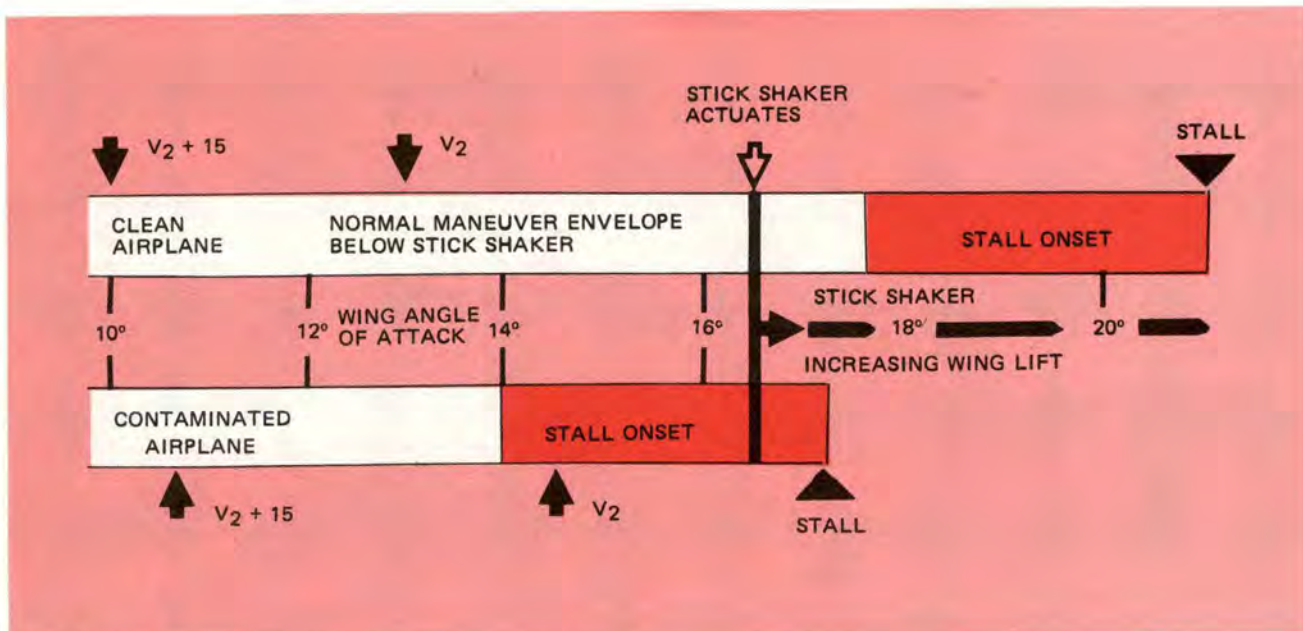
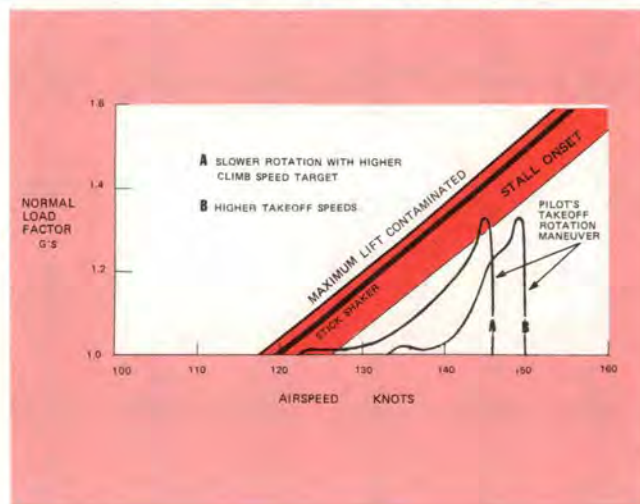

Figure 9
Figure 12
typically consists of four distinct events. Usually, the first sign of an impending stall on a modern jet transport is the activation of an artificial warning device as shown in Figure 9. All Boeing aircraft use an electrically actuated column shaker for this artificial stall warning to alert the pilot before "STALL ONSET" flight characteristics are encountered. Activation of this stall warning stick shaker is based on a preset angle of attack. Second, as the airspeed is further reduced (and angle of attack is increased) toward stall, the airflow cannot remain attached over the entire wing and will begin to momentarily separate near the wing trailing edge. A buffeting, or mild shaking of the aircraft, results as the lift force on the aircraft begins to fluctuate. The buffet intensity will increase as the airspeed is decreased further (and angle of attack is increased) and the areas of separated flow expand. Third, as the stall progresses, and the separated flow region further expands, the center of lift moves forward, requiring less control force from the pilot to continue raising the nose and decreasing the airspeed. This pitch activity, which indicates "STALL ONSET," is typically referred to as reduced pitch stability or stick-force lightning by flight test pilots. A fourth characteristic of "STALL ONSET" is a noticeable increase in roll activity and a corresponding increase in the lateral control action required by the pilot to maintain wings level. Initially, this roll activity and the associated lateral control action are caused by asymmetries in the fluctuating separation patterns on each wing. However, as the "STALL ONSET" progression continues, the lateral control action required to keep the wings level increases as the separated flow regions expand to include the ailerons and spoilers, causing them to be less effective. The Federal Air Regulations require that all certified airplanes have sufficient pitch and roll control capability to recover at any
When the wing is contaminated, the "STALL ONSET" buffet, pitch, and roll activity flight characteristics are similar to a clean wing. However, these "STALL ONSET" flight characteristics may now occur within the clean airplane's normal maneuvering envelope, before stick shaker activation, as is shown in Figure 9. This is a result of the early flow separation caused by contamination. Consequently, the stick shaker may not provide warning of "STALL ONSET" flight characteristics for the contaminated airplane. Of course, the details of the contaminated wing "STALL ONSET" flight characteristics will vary as widely as the possible variations in the contamination accumulation. Buffet, pitch, and roll activity "STALL ONSET" flight characteristics are immediate signals to recover from an impending stall consistent with ground proximity, whether or not the stick shaker has activated. Test results indicate that even with the worst contamination tested, the pilot's pitch and roll control capabilities were not significantly degraded. These ample control capabilities allow positive recovery from "STALL ONSET."
A fourth contributing factor is the time required for a pilot to react to the airplane flight characteristics that have been changed by the contaminated wing and tail. As was shown in Figure 9, contamination moves the "STALL ONSET" region closer to the normal takeoff speeds and eliminates the "STALL ONSET" warning provided by the stick shaker. The release is calculated to put the clean aircraft "in trim" for climb. When the wing and tail are contaminated, the aircraft trim characteristics are changed, creating an airplane-nose-up mistrim condition during the rotation maneuver. The decrease in pitch stability and mistrim caused by contamination results in higher rotation rates for the same stick force input. The pilot expects his aircraft to be free from contamination after approved ground maintenance procedures and it takes him time to recognize that his aircraft is not responding normally and to take appropriate corrective action. The combination of the pilot's reaction time with the higher rotation rates results in the pitch attitude overshoot by the pilot of the contaminated airplane. The simulator studies further indicate that when the pilot suspected contamination and was aware of how contamination affects the airplane's pitch response, the pilot used less stick force to rotate the airplane which minimized pitch
A similar analysis is shown for an airplane with a contaminated wing and tail in Figure 12. Note that the 18 percent loss in maximum lift due to contamination reduces the maneuver capability available at any speed by 0.3 Gs. As previously explained in Figure 9, the "STALL ONSET" region now has correspondingly moved down before stick shaker activation, into the normal takeoff maneuvering envelope. The shape and location of the "PILOT'S TAKEOFF ROTATION MANEUVER" for the contaminated airplane is also different as a direct result of the pitch attitude overshoot described above. The peak load factor is slightly higher
After approved maintenance procedures are completed, margins can be increased by (1) rotating slower while targeting higher airspeed; and (2) increasing the takeoff speeds. Both of these operational procedures move the "PILOT'S TAKEOFF ROTATION MANEUVER" to higher speeds, away from the "STALL ONSET" flight characteristics as shown in Figure 12. The use of increased takeoff speed must be accounted for in dispatching the airplane. This will ensure that the airplane can take off at the higher takeoff speeds within the available field length. Winter weather operational procedures are contained in the T.O.s for each aircraft.